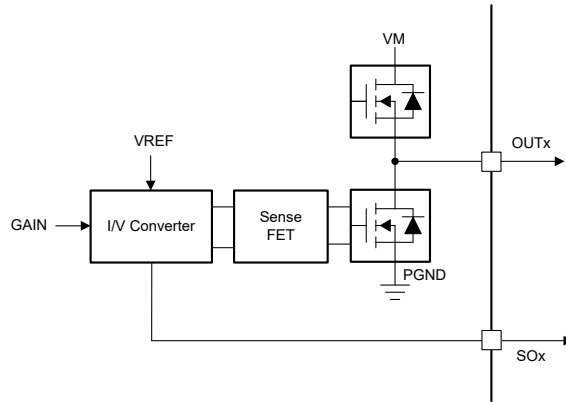

图 8-19. Integrated Current Sense Amplifier
图 8-19 shows the internal architecture of the current sense amplifiers. The current sense is implemented with a sense FET on each low-side FET of the DRV8317 device. This current information is converted in to a voltage based on the CSAREF pin (VREF) input and the CSA gain setting; this voltage is available on the SOx pin. The CSA output voltage can be calculated using 方程式 2
$SOx = V_{REF}/2 + (G_{CSA} * I_{OUTx})$, wherein I_{OUTx} is considered positive in the direction shown in 图 8-19. (2)